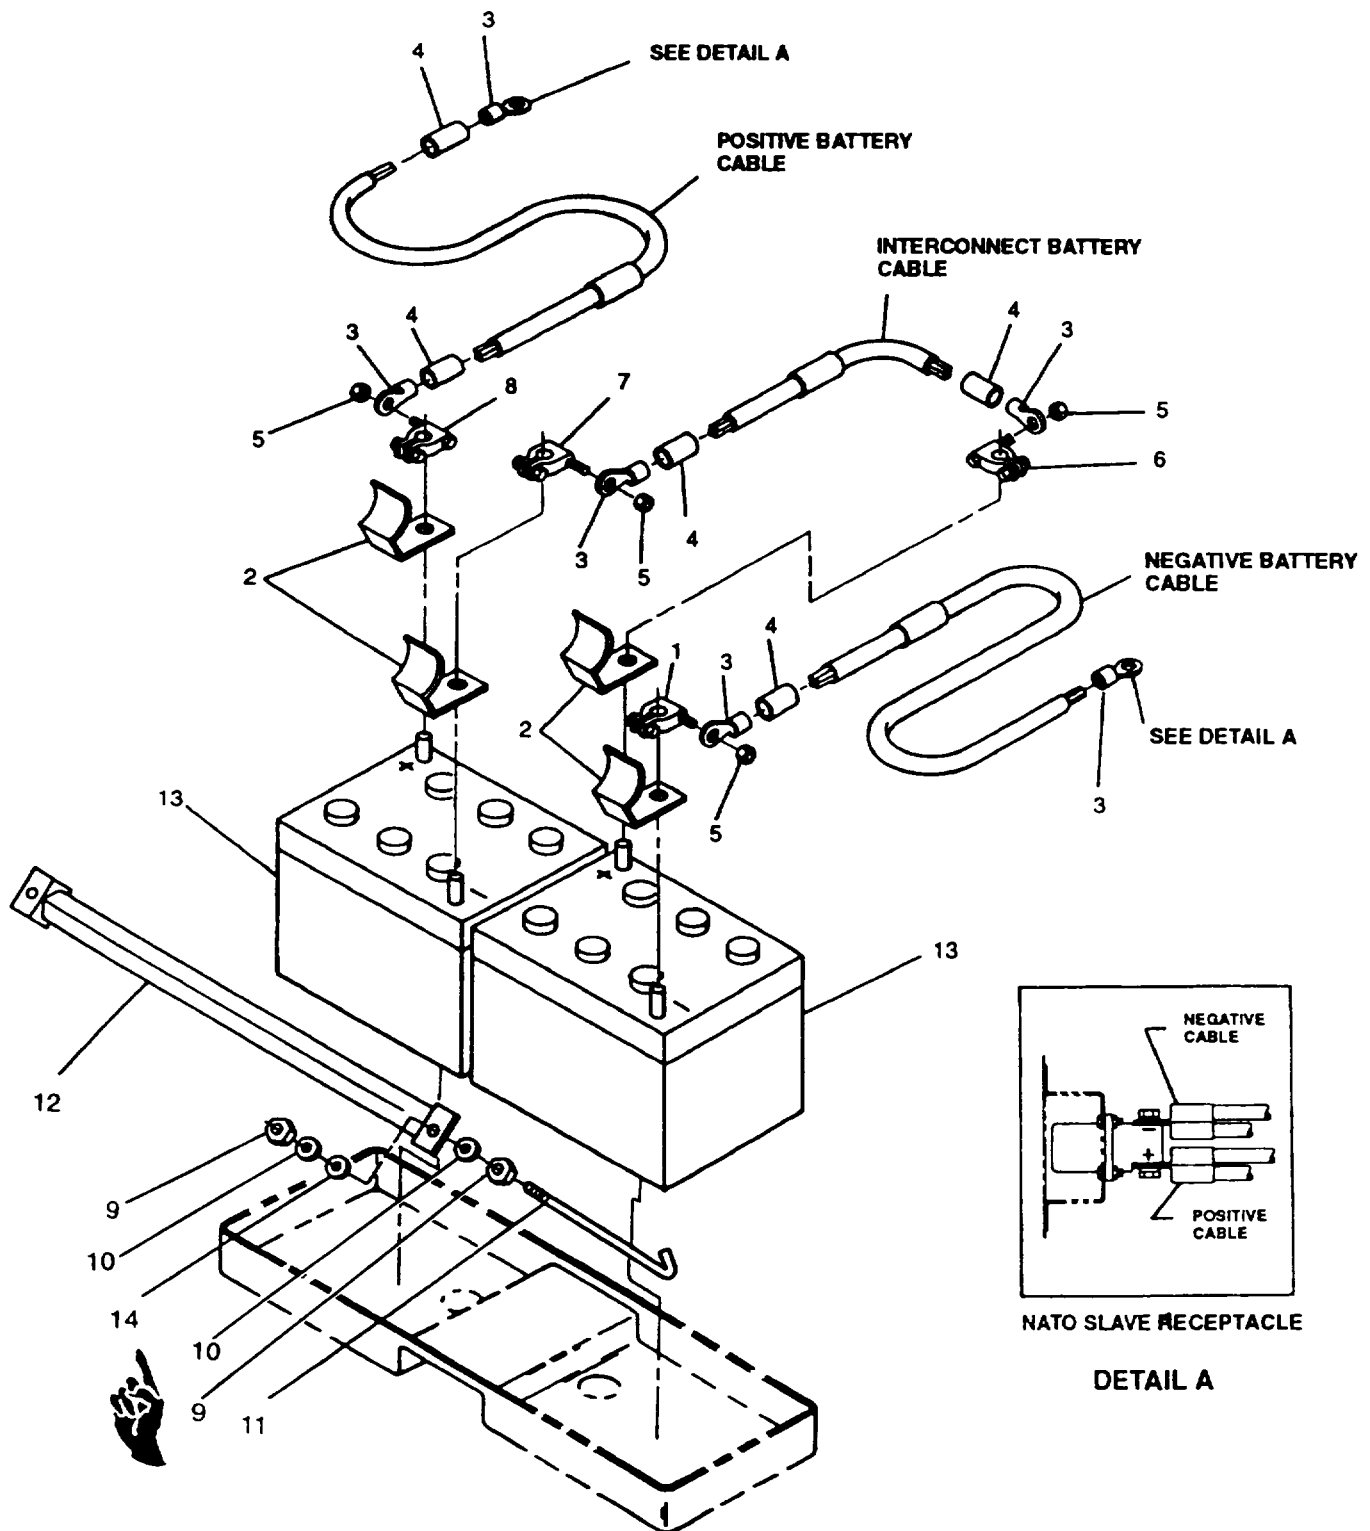

FIGURE 2-3. Batteries and Cables
- c. Disconnect negative battery cable terminal lug (1, FIGURE 2-3) from battery.
- d. Disconnect and remove applicable cable assembly as shown in FIGURE 2-3 or FIGURE 2-4.
- a. Remove terminal cover(s) (2, FIGURE 2-3) from battery post(s), if applicable.
- c. Install terminal cover(s) (2), if removed.
- a. Remove nut(s) (5, FIGURE 2-3) and battery cable terminal lug(s), as necessary.
- b. Remove broken or damaged terminal (3, FIGURE 2-3 or FIGURE 2-4) from cable assembly.
- c. Slide new shrinkable tubing (4, FIGURE 2-3 or FIGURE 2-4) over cable end.
- d. Install terminal (3) to cable end as described in Appendix D.
- e. Heat shrinkable tubing (4) with heat gun until secure.
- f. Install battery cable terminal lug(s) with nut(s) (5, FIGURE 2-3), as necessary.
- a. Install applicable cable assembly as shown in FIGURE 2-3 or FIGURE 2-4.
- b. Connect negative battery cable terminal lug (1, FIGURE 2-3) to battery.
- c. Disconnect negative battery cable terminal lug (1, FIGURE 2-3).
- d. Disconnect interconnect battery cable terminal lugs (6) and (7) and remove interconnect battery cable assembly.
- e. Disconnect positive battery cable terminal lug (8).
- a. Remove terminal covers (2, FIGURE 2-3).
- c. Install terminal covers (2) on batteries (13).
- a. Position batteries (13, FIGURE 2-3) in generator set. Ensure that batteries are serviced and fully charged.
- b. Apply general purpose grease (Item 10, Appendix C) to battery posts and cable terminal lugs (1), (6), (7), and (8) (F) Apply petrolatum or equal.
- c. Install clamps (11) and retaining bar (12) with lockwashers (14), washers (10), and nuts (9).